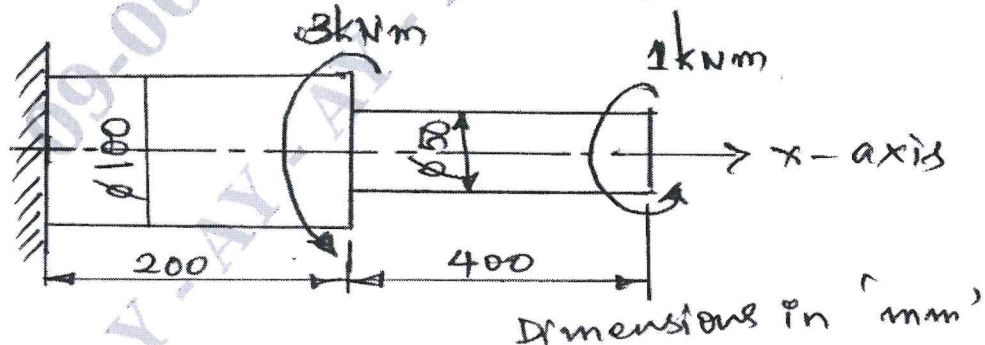

Fig. Q. 6 (b)
- b. A solid shaft of circular cross section as shown in figure Q 6 (b), subjected to a torque of 1 kN – m @ its free end and a torque of 3kN –m at its change of cross section. Determine the angle of twist and shear stress in the shaft. $E = 200 \text{ GPa}$, $G = 70 \text{ GPa}$.